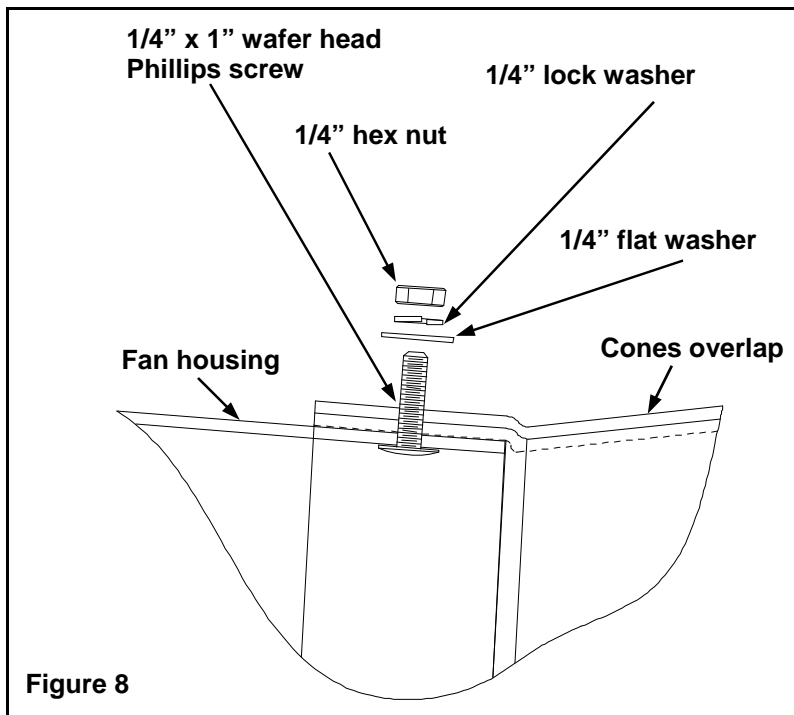

Figure 8
cone quarter to the fan housing with a flat washer, lock washer and hex nut (on each screw). See Figure 8. Fasten nut only finger tight at this time. Now, facing the fan outlet, in a counter clockwise direction, place another cone quarter to the left of the first one. This cone quarter will slip under the first so they overlap. Repeat the above hardware installation, and repeat for the remaining two cone quarters. When the fourth cone quarter is to be joined to the fan, you will need to remove the first screw so the two cone quarters will overlap. Finally, fasten the cone quarters where they overlap, two places per overlap, with one (1) 1/4" x 1" hex head bolt, flat washer, lock washer and hex nut. See Figure 9. Now, you can snug the cone quarters together and tighten all the hardware.